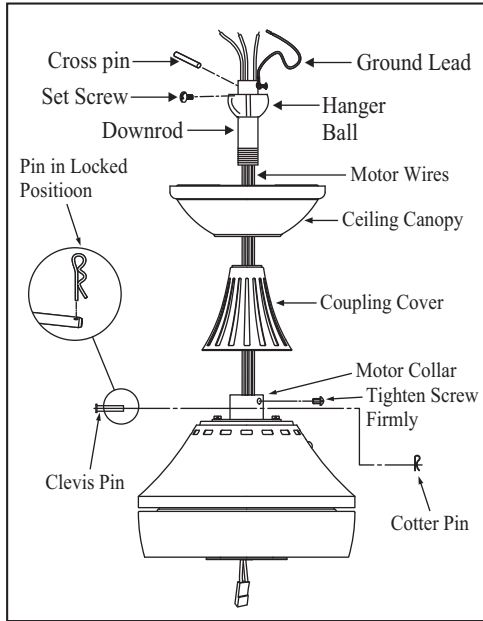

Figure 8
6. Carefully feed the motor wires up through the downrod. Thread the downrod into the collar. Align the holes and replace the clevis pin and cotter pin. Tighten the two collar setscrews. (Figure 8)
7. Slip coupling cover, canopy ring, and canopy onto the downrod. Carefully reinstall the hanger ball onto the downrod and reinstall the ground lead onto the downrod, being sure that the cross pin is in the correct position, the setscrew is tightened and wires are not twisted. (Figure 8)
THE TAB IN THE RING MUST REST IN THE GROOVE OF THE HANGER BALL AS FIGURE 8. FAILURE TO PROPERLY SEAT THE TAB IN THE GROOVE COULD CAUSE DAMAGE TO WIRING.